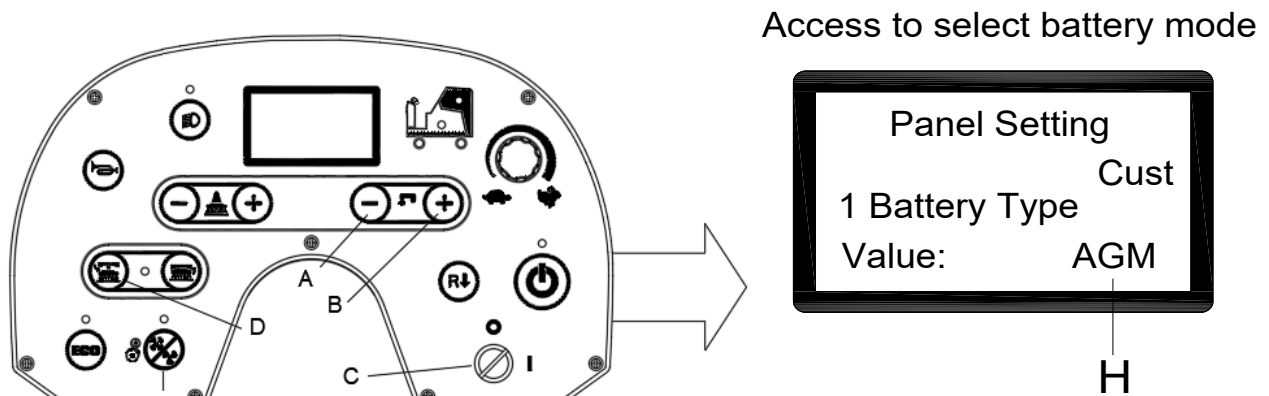

Figure 6
1. Press water flow button "-"(A, Figure 6) and "+"(B, Figure 6) at the same time.
2. Insert the ignition key (C, Figure 6) and turn it to "I".
3. Several seconds later enter to the screen of selecting battery mode (Figure 6).
4. Press water flow button "-"(A, Figure 6) and "+"(B, Figure 6) to select battery mode (H, Figure 6).
5. Press the release button (D, Figure 6), 3 seconds later show " Update OK" means setting succeeds, restart machine. (C, Figure 6).